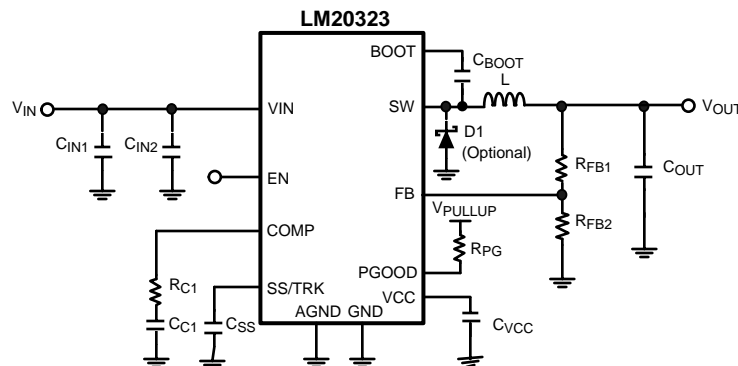

Figure 23. Typical Application Circuit
The LM20323 switching regulator features all of the functions necessary to implement an efficient buck regulator using a minimum number of external components. This easy to use regulator features two integrated switches and is capable of supplying up to 3A of continuous output current. The regulator utilizes peak current mode control with nonlinear slope compensation to optimize stability and transient response over the entire output voltage range. Peak current mode control also provides inherent line feed-forward, cycle-by-cycle current limiting and easy loop compensation. The 500kHz switching frequency minimizes the inductor size while keeping switching losses low allowing use of a small inductor while still achieving efficiencies as high as 93%. The precision internal voltage reference allows the output to be set as low as 0.8V. Fault protection features include: current limiting, thermal shutdown, over voltage protection, and shutdown capability. The device is available in the HTSSOP package featuring an exposed pad to aid thermal dissipation. The typical application circuit for the LM20323 is shown in Figure 23 in the design guide.
This section walks the designer through the steps necessary to select the external components to build a fully functional power supply. As with any DC-DC converter numerous trade-offs are possible to optimize the design for efficiency, size, or performance. These will be taken into account and highlighted throughout this discussion. To facilitate component selection discussions the circuit shown in Figure 23 below may be used as a reference. Unless otherwise indicated, all formulas assume units of amps (A) for current, farads (F) for capacitance, henries (H) for inductance and volts (V) for voltages.